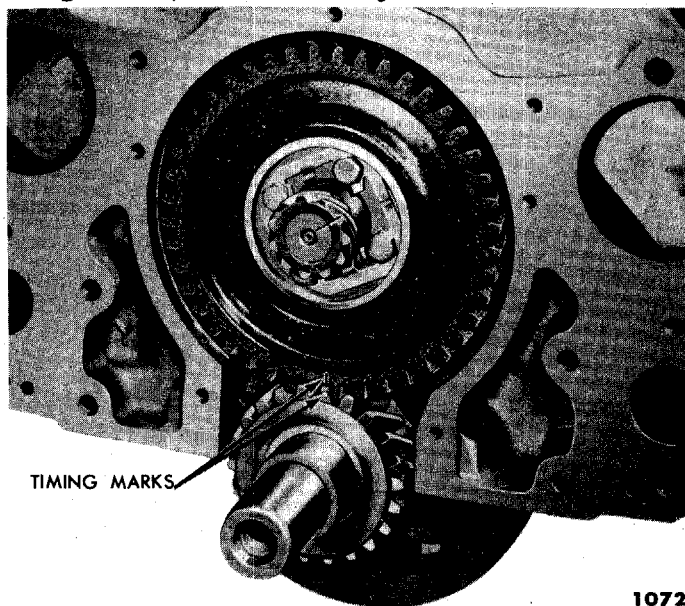

Fig. 38—Timing Marks
(2) **INSTALLATION.** When the timing gear is installed be sure the timing marks on the camshaft gear and the crankshaft gear line up as shown in fig. 38.